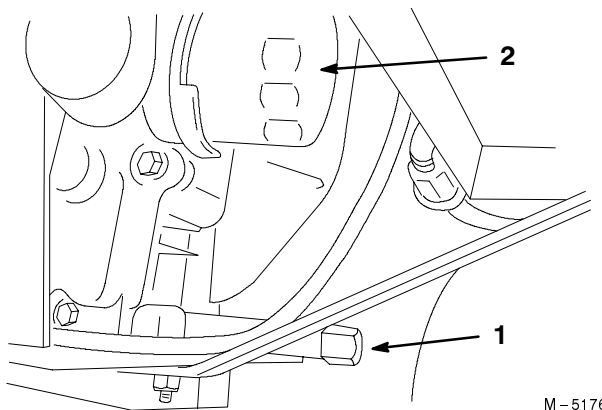

Figure 18
3. Place a pan below the oil drain. Remove the oil drain plug (Fig. 18).
2. Remove the old filter and wipe the filter adapter (Fig. 18 and 19) gasket surface.